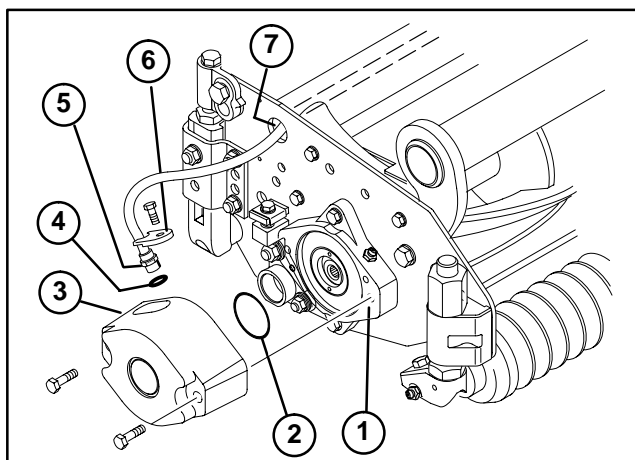

Figure 49
3. Lubricate and install a large O-ring into bearing housing groove on each end of cutting unit (Fig. 49 & 50).
4. Install a counter weight onto appropriate end of each cutting unit with capscrews provided (Fig. 49).
15. Install small O-ring onto speed sensor and insert sensor into hole in counterweight (Fig. 49).
16. Secure sensor to counterweight with a sensor holder and a M6 x 20 mm capscrew (Fig. 49).